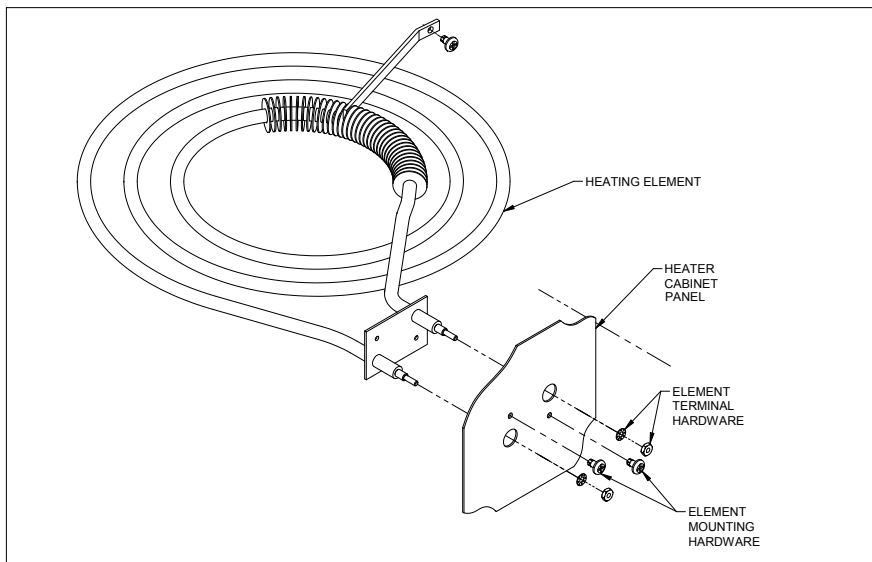

Figure 3 – Heating Element Assembly
2. Install factory-supplied replacement heating element (see Figure 3, page 10).